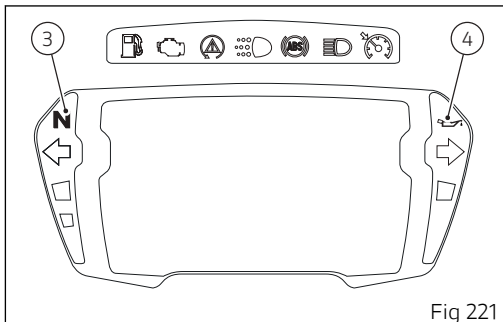

Fig 221
The red oil pressure warning light (4, Fig 221) should go out a few seconds after the engine has started. The engine will shut off by turning the red button (1) on the handlebar to RUN OFF. To turn on the "Hands free" system and all electronic onboard systems, refer to "Hands Free System" Chapter.